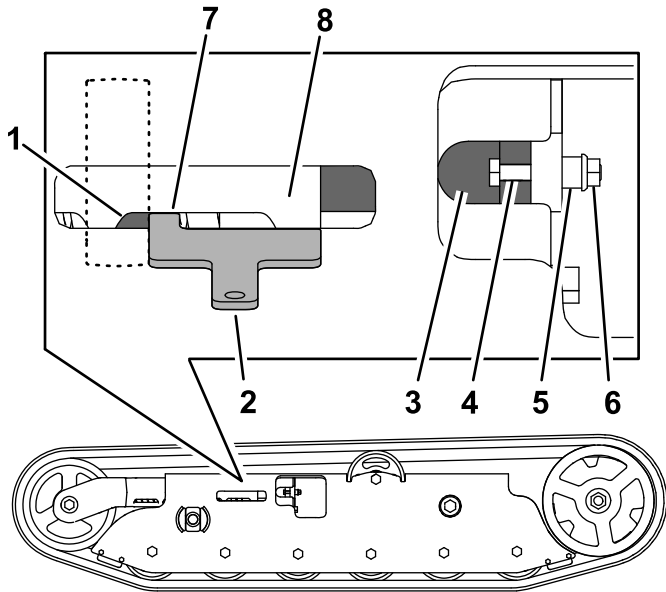
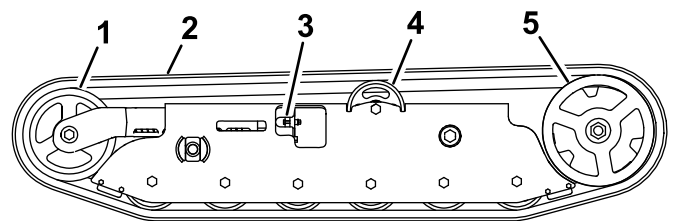

Figure 35
Figure 36
If you place the tab of the tensioning tool along the rear edge of the tension nut, the other end of the tensioning tool should align with the edge of the tension arm as shown in Figure 35. If the distance is not correct, adjust the track tension using the following procedure:
6. Remove the bolt (1/4 x 1-5/8 inch), spacer, and nut (Figure 35).
7. Turn the tensioning bolt to adjust the distance between the tension nut and the end tangent of the tension tube until the distance is correct, as shown in Figure 35.
8. Align the closest notch in the tensioning bolt to the bolt hole and secure the tensioning bolt with the bolt (1/4 x 1-5/8 inch), spacer, and nut (Figure 35).
5. Release the drive tension by turning the tensioning screw clockwise (Figure 35 and Figure 36).
7. When the track is off the front wheel, remove it from the drive sprocket and road wheels (Figure 36).
9. Beginning at the drive sprocket, coil the new track around the sprocket, ensuring that the lugs on the track fit between the spacers on the sprocket (Figure 36).
10. Push the track under the lugs and between the road wheels (Figure 36).
5. Remove the skid plate (Figure 35).